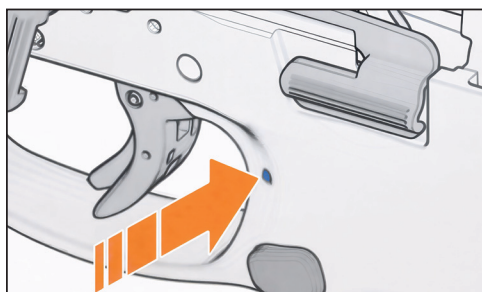

Figure 44 – Drive out pin
2. In case of weapons with pin for magazine catch: Drive out pin with a $\varnothing 1.8$ mm pin punch (Figure 44).